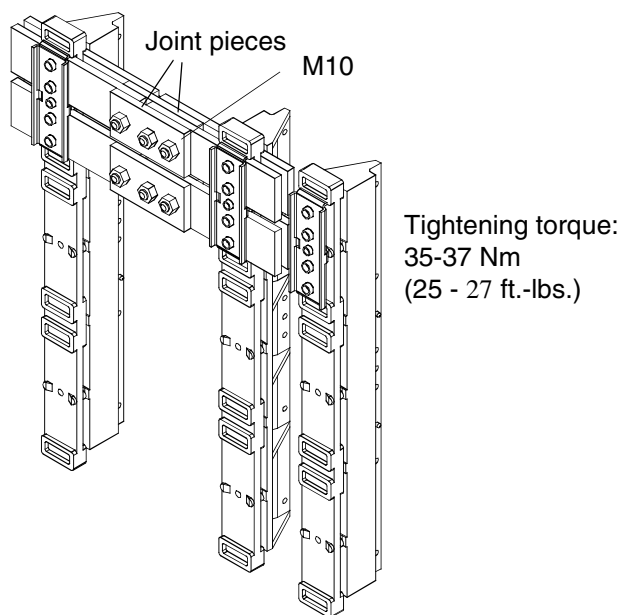

Figure 2-29 AC busbar
- 3.) Connect the busbars with the joint pieces (see *Figure 2-29*).